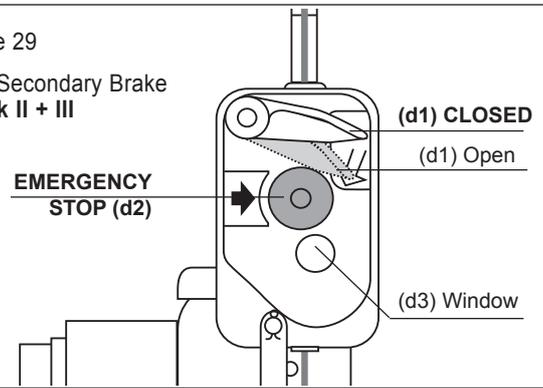

Figure 30 Examples of wire rope damage
- Kinking, crushing, birdcaging, or any other distortion of the wire rope structure (Fig. 30).